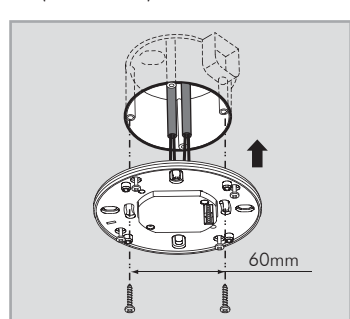

FIG.8
3.4.1.3 Fix the power box into European standard junction box with 2pcs screws (See FIG.8).